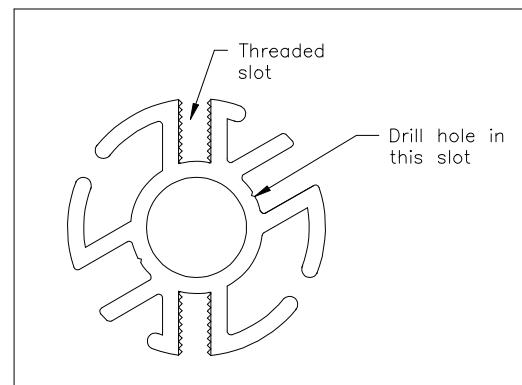

FIGURE 1
- 3) Drill a 5/16" hole, 1/2" from the cut end of the rollerbar. Start the hole in one of the smooth-sided slots, **not** a threaded slot (see Figure 1). Slide one end of the rollerbar over the DD motor output shaft and secure with a 5/16" carriage bolt, washer, and lock nut.